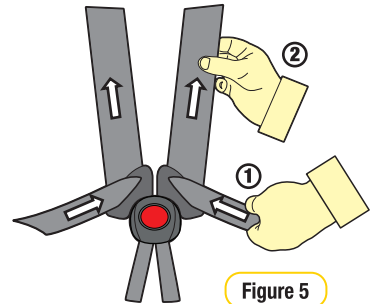

Figure 5
Step 6: Remove all of the slack for the harness lap straps by pulling shoulder straps, then pull the harness adjustment strap to adjust harness to a comfortable but firm fit (refer Figure 5).